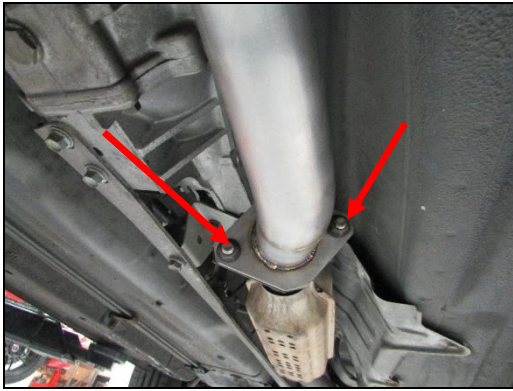

Figure 10
4. Reuse the OE gasket and (x2) 17mm head nuts (replace if needed). Install the gasket and connect the flange to the OE flange (**Figure 10**).